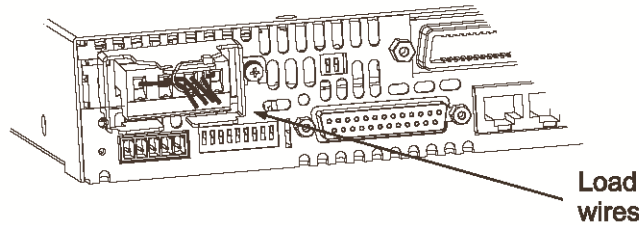

Fig. 3-9: Protective shield and wires assembly
- f) Tighten the wires to one of the shield sides using ty-wrap or equivalent. Refer to Fig.3-9. Ensure that the wire length inside the shield is long enough to provide proper strain relief.